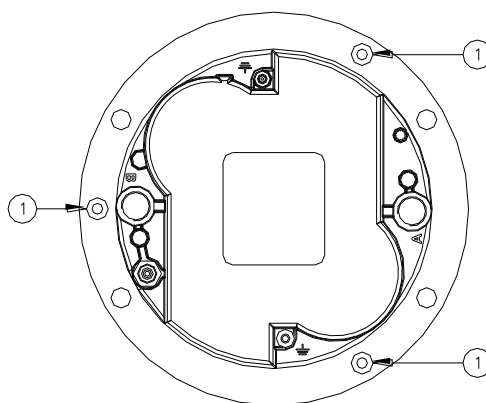

Figure 20 - Lower Cover Fixing Screws
Open the fixture by unscrewing the three locking screws TORX M5x10 (Figure 20 - n°1). Every time the fixture is opened, inspect the following parts and replace them if necessary:
- three locking screws TORX M5x10 (Figure 20 - n°1);
Verify the correct position of O-Ring between dome and lower cover (Figure 22 – n°2); mount the lower cover on the dome and fasten it by means the three screws TORX M5x10 (Figure 20 - n°1). One drop of anaerobic adhesive lower type (e.g. LOXEAL 24-18) should be applied to the screws before installation; tightening torque is 2.5 Nm.